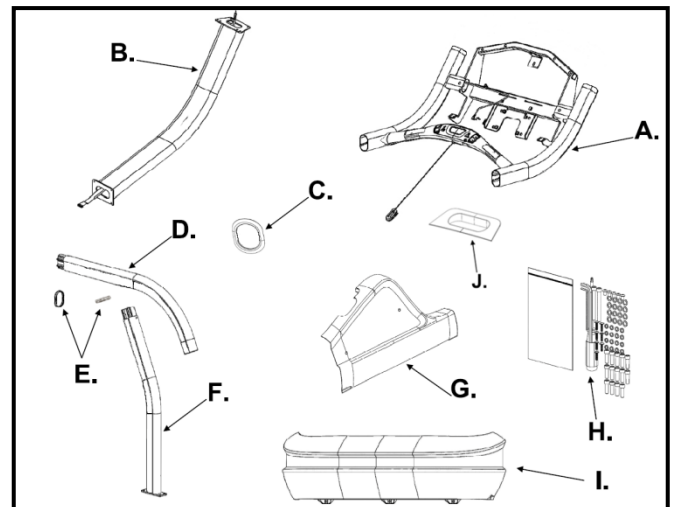

Fig. 3
3. Move all unattached components off the TreadClimber® base (Fig. 3).